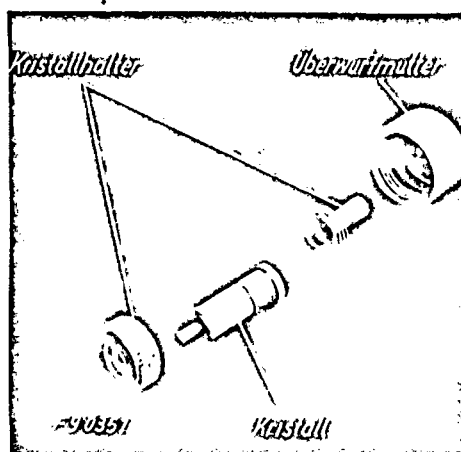

Fig. 5. 1) Crystal holder; 2) screw cap; 3) crystal.
3. The crystal is to be removed after the opening the crystal holder (Fig. 5).